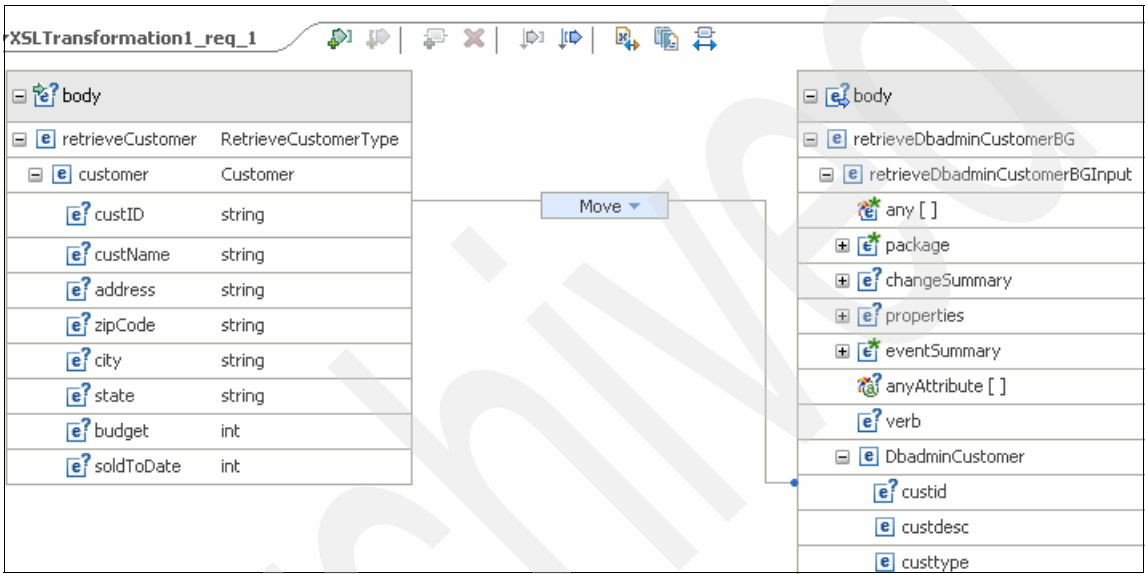

Figure 5-49 XML mapping editor
5. In the XML mapping editor, the retrieveCustomer object is on the left and retrieveDbadminCustomerBG object on the right (Figure 5-49).